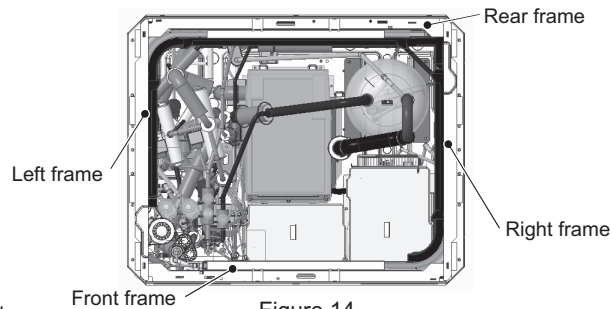

Figure 14
- (17) To remove the front heat exchanger, first remove the front, left, and right frames by unscrewing the 10 screws. (See Figure 14.) To remove the rear heat exchanger, remove the rear frame in addition to the front, left, and the right frames by unscrewing the 12 screws. (See Figure 14.)